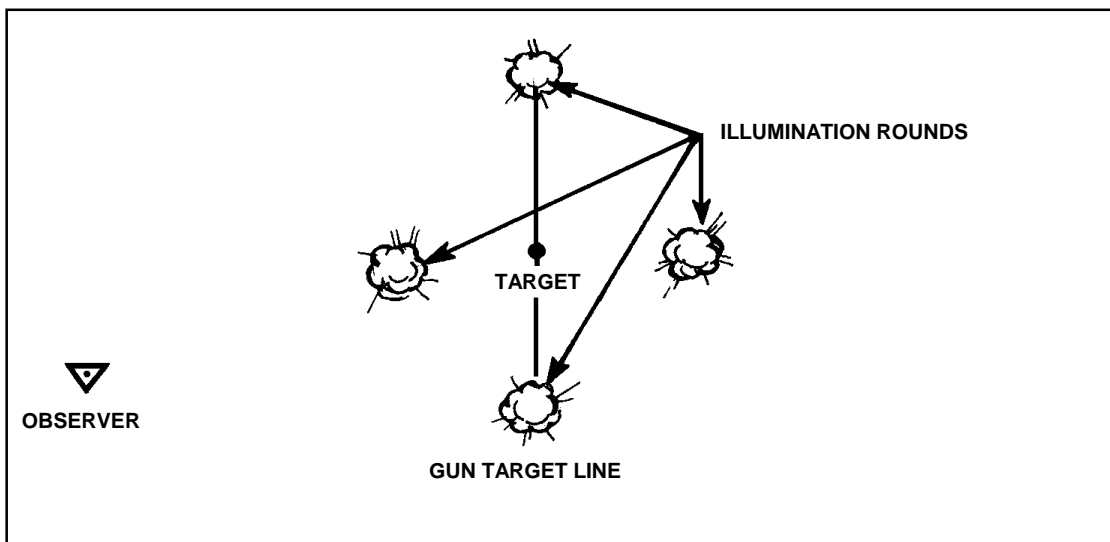

Figure 8-9. Range-lateral spread.
(3) *Range-lateral spread.* If the target area is extremely large or if visibility is limited, the FO may call for range-lateral spread. This procedure combines the two methods (Figure 8-9). This results in a large diamond-shaped pattern of bursts. If mortars use the flank mortars for the lateral spread and the center mortar(s) for the range spread, the danger of rounds crossing in flight is removed.